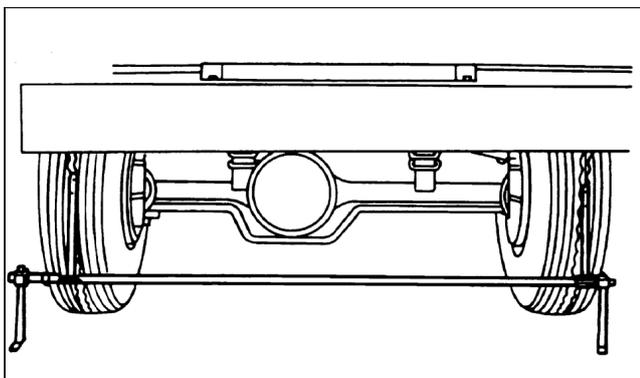

Fig. 6.4
7. Place the trammel bar at the front of the tires. Adjust the pointer to line up with the scribe lines. - Fig. 6.4